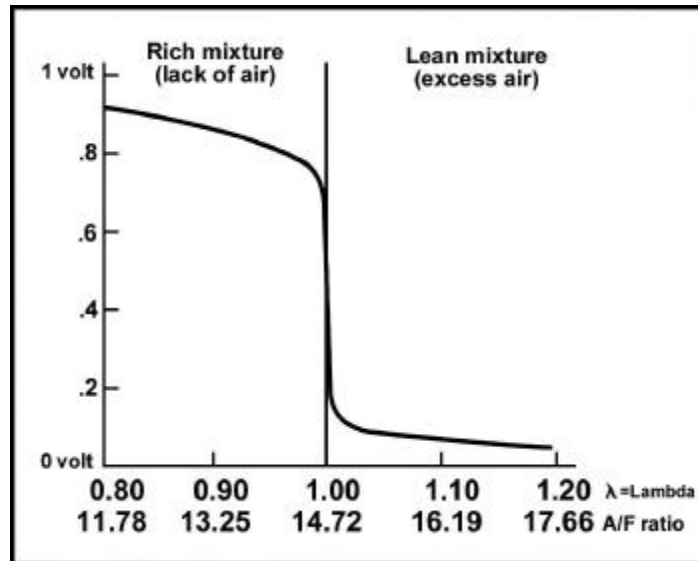

Figure 57 O2 Sensor Voltage
**Figure 57** below shows the voltage output of an oxygen sensor. As shown, the voltage changes considerably when the air / fuel ratio approaches 14.7:1. This explains why a standard oxygen sensor is only accurate at signifying an air / fuel ratio of 14.7:1. Air / fuel ratios richer and leaner can only be approximated. As discussed above, if the exhaust gas temperature is too low, these readings will be false.